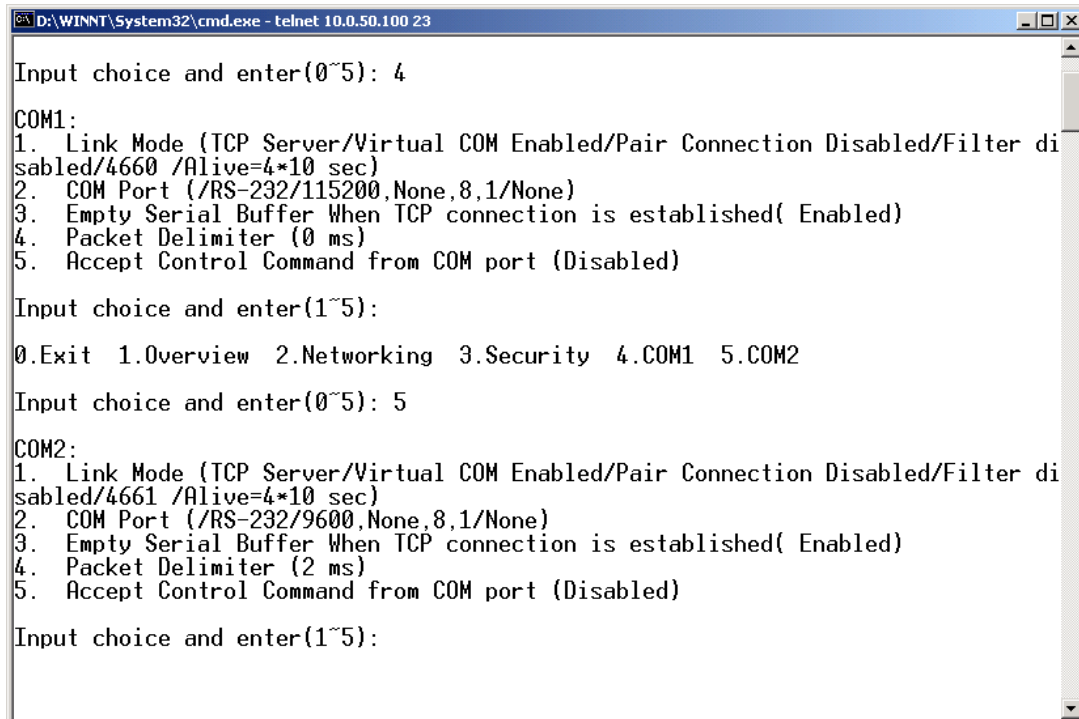

Fig. 13. changing password using Telnet
1. Select “3” on “**Input choice and enter (0~5):**” (Fig. 13).